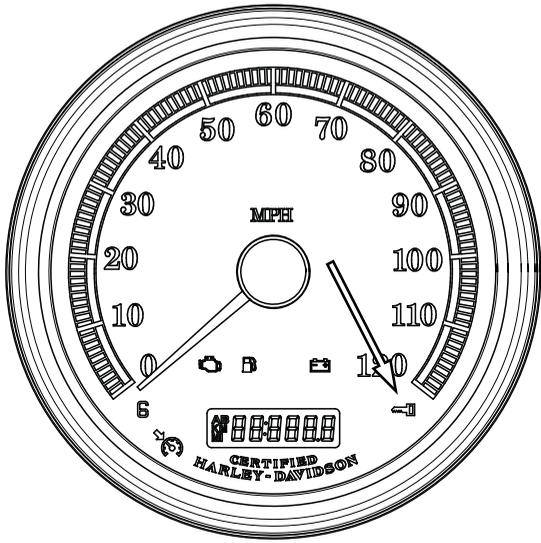

Figure E-5. Security Lamp (Key Icon)
- **Security lamp (key icon):** See Figure E-5. A lamp within the speedometer face tells the rider if the system is armed or disarmed.